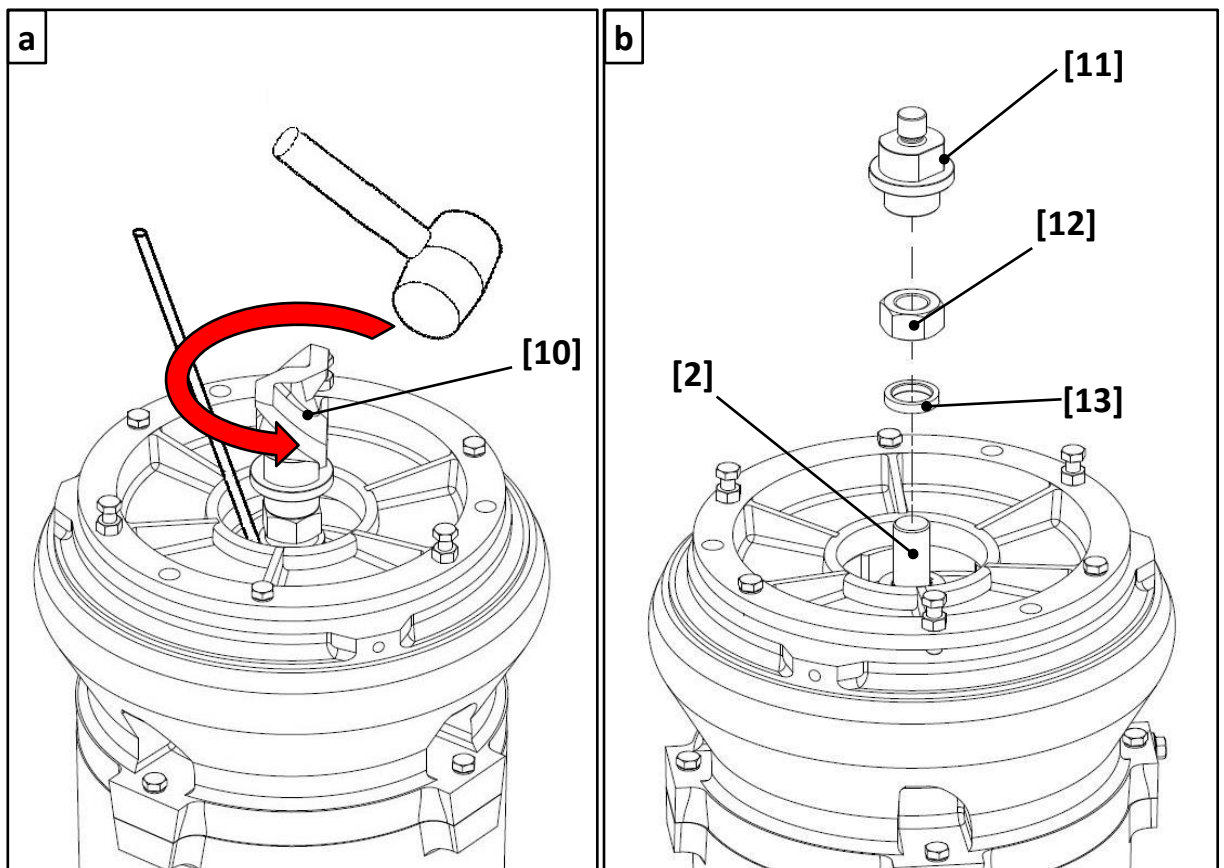

Fig. 29
- maintaining blocked the impeller (e. g. by inserting an iron rod), unscrew the agitator [10] by hitting smartly in counterclockwise direction with a hammer (see Fig. 29);